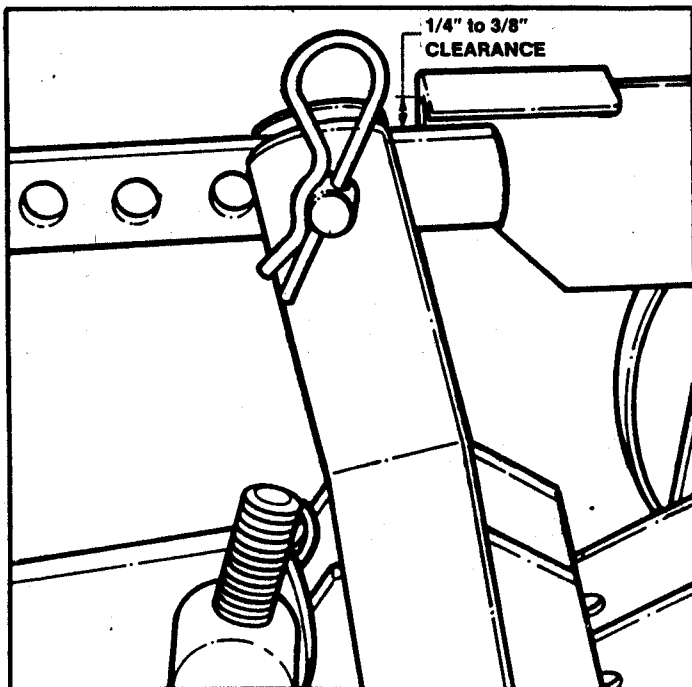

FIGURE 11
2. With engine off, release safety strap and lower tiller until the tines rest on the ground. Engage the tine clutch and check the clearance between the tine clutch and the center stabilizer bar. It should be 1/4" to 3/8". See Figure 11.